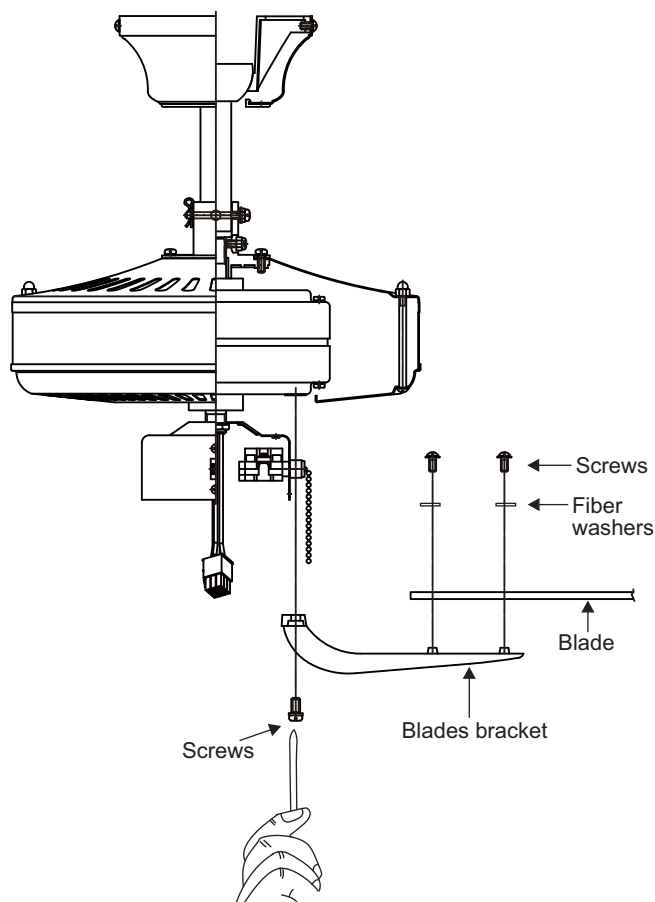

Figure 16
**Step 1.** Attach the blade to the blade bracket using the screws and fiber washers as shown in Figure 16. Start screw into bracket. Repeat for the two remaining screws.
**Step 3.** Fasten blade assembly to motor using the screws supplied. (Fig. 16)